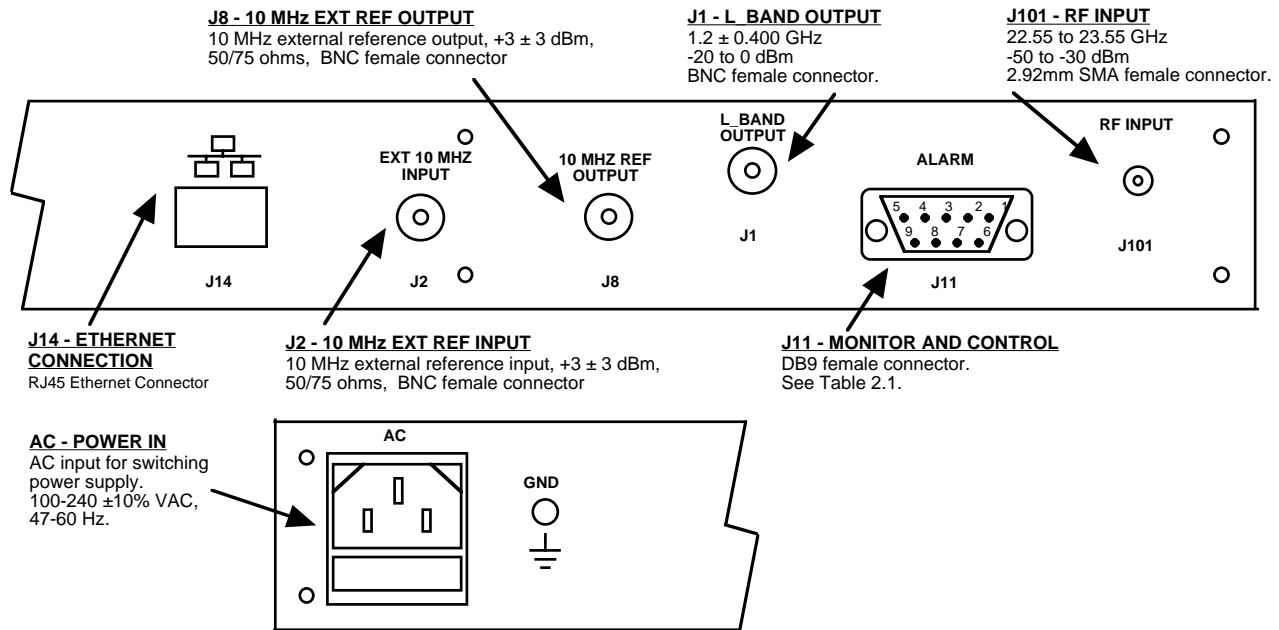

FIGURE 2.1 3116-236#-1200 Rear Panel I/O's
Figure 2.1 shows the input and output connectors on the rear panel.
1. Connect a -50 dBm to -30 dBm signal to RF IN, J101 (Figure 2.1).